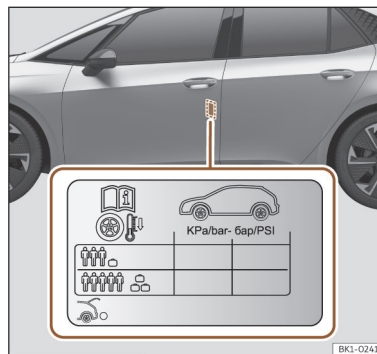

Fig. 189 Location of the tyre pressure sticker.
- Adjust tyre pressure to the load being carried by the vehicle >>> **Fig. 189**.
The tyre pressure values are shown on the sticker located on the rear frame of the front left door >>> **Fig. 189.**
The tyre pressure must be adjusted according to the load the vehicle is carrying. If the vehicle is going to be fully loaded, increase the tyre pressure to the maximum load value shown on the sticker >>> **Fig. 189.**
In the case of a minimised temporary spare wheel (125/70 R16 or 125/70 R18) inflate to a pressure of 4.2 bar as indicated on the tyre pressure label >>> **Fig. 189.**
- The driver is responsible for ensuring that all of the vehicle tyres are correctly inflated to the right pressure. The recommended tyre pressure is indicated on the label >>> **Fig. 189.**
- Tyre pressure should be as indicated on the label when the tyres are cold at all times >>> **Fig. 189.**